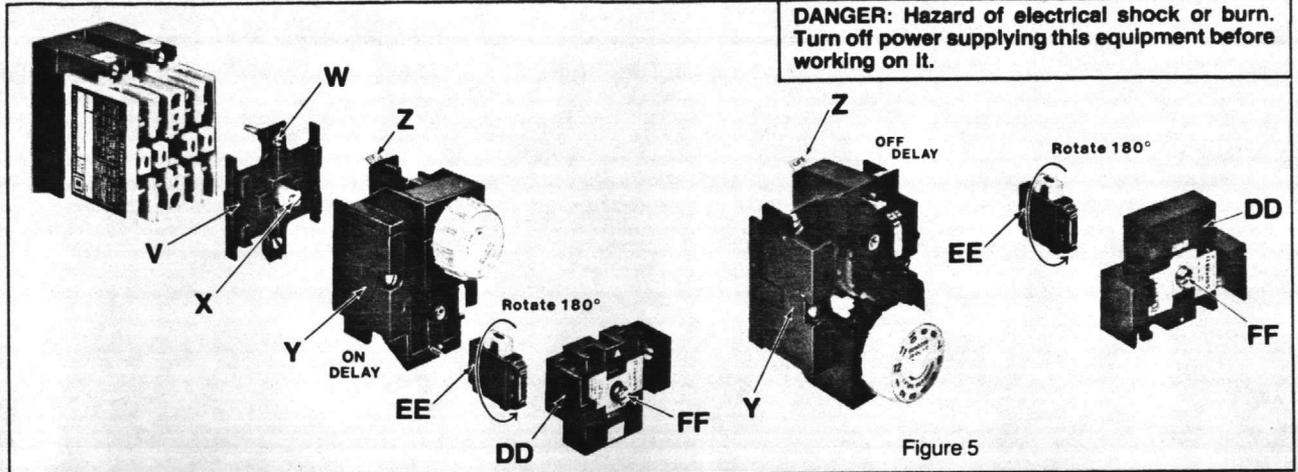

Figure 5
2. Install adapter assembly (V) on relay (Figure 5). Adapter assembly is keyed for proper orientation. Tighten 2 captive screws (W) and T-bar actuator screw (X). Refer to Table 7 for factory-recommended tightening torques.
3. Orient timer attachment (Y) with "LIFT" tab (Z) on top as shown in Figure 5. Place timer attachment on relay and slide down. Timer attachment will lock in place.
- To remove timer attachment, lift up on "LIFT" tab (Z), slide attachment up and lift off.
1. Loosen 2 captive screws (AA).
2. Remove timing head (BB) and rotate 180°.
3. Carefully replace timing head (BB). Make sure that the 2 screws (AA) are lined up with D-shaped posts (CC). Tighten 2 screws (AA).
4. Check timing-mode (ON DELAY or OFF DELAY) visible through a window in the cover (DD Figure 5) to insure that the desired timing-mode is indicated.
5. With timer attachment installed on relay, check contact symbols which are visible through windows in the cover (DD Figure 5) to insure that the desired function is indicated.
TIMED-CONTACT CONVERSION (Figure 5)